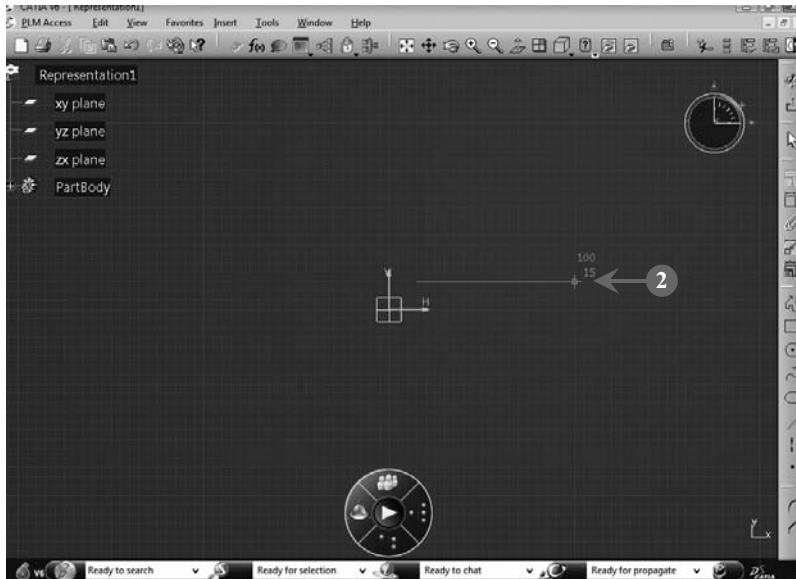

FIGURE 2.14
2. *Click and drag* the mouse pointer from the starting point coordinates to the end point of the line (up to where you want to limit the length of the line). In our case, the starting point coordinates of the line are (15, 15) and the end point coordinates are (100, 15), as shown in **Figure 2.14**: